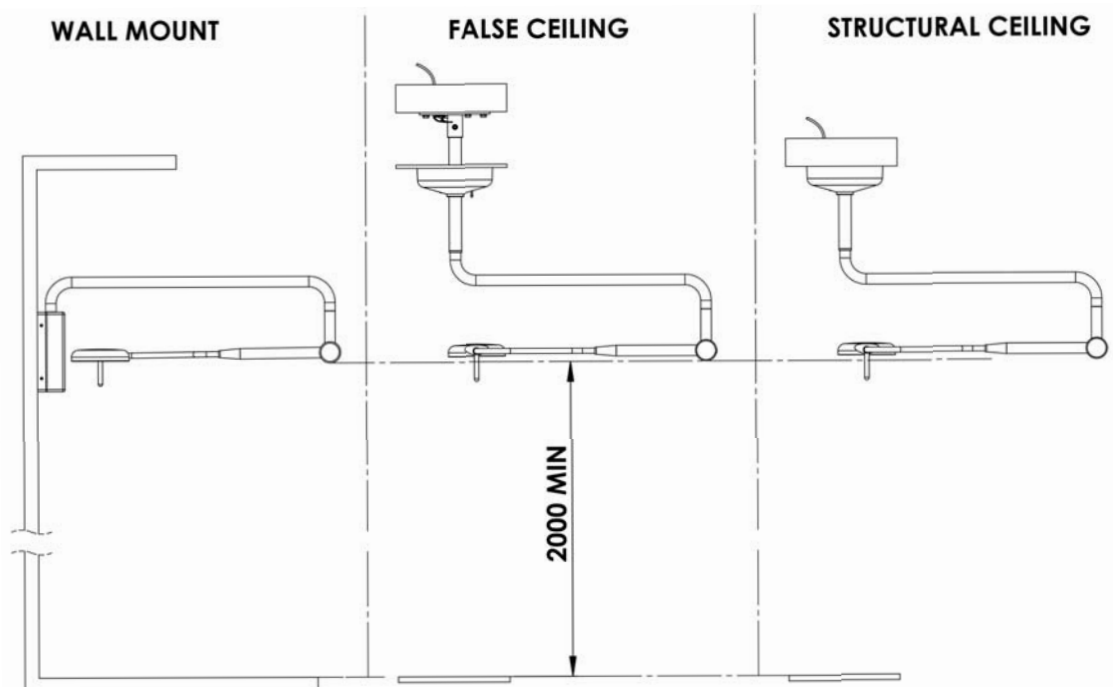

Fig 1.0
3.1.3 To confirm ceiling/wall height measurements at the appropriate nominal recommended height from the floor refer Fig 1.0
The Planet Model Phantom arm is designed to be mounted above the immediate work area. Standard mounting fixtures for Planet Model Phantom are: Ceiling Mount & Wall Mount (specialised mountings are available on application). In all cases the suggested mounting height (measured at swivel head) is two metres from floor level, as seen in Fig 1.0.